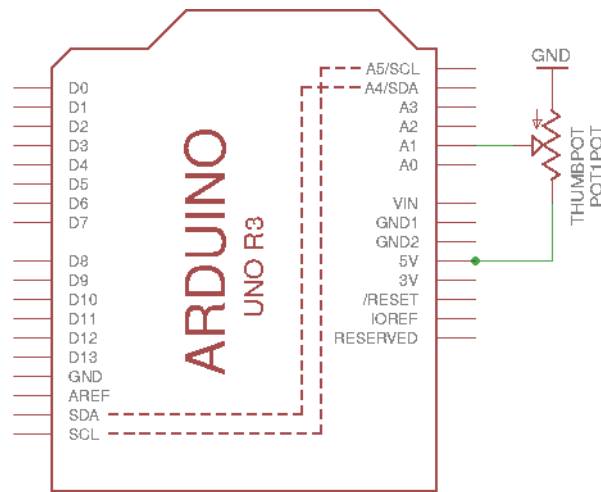

Figure 3.1: Circuit set-up for Activity 2
The circuit set-up is very simple for this activity. We need to identify the pins on the potentiometer first. The resistance between the middle pin and one of the outer pins is variable. The connection in Fig. 3.1 can be interpreted as two series connected resistors for which the sum of their electrical resistance is constant and equals 10 k Ohm, but each resistor has a variable resistance. This way,
- Assemble the circuit in Fig. 3.1.
2. Suppose we change the circuit from Fig. 3.1 by moving the connector from pin +5V to pin +3V on the Arduino. What is the range of values that are likely to be returned on the Serial monitor in this case? You may assume that integer values are assigned uniformly in the range 0 V to 5 V.
3. Add an LED and a 220 Ohm resistor to the circuit from Fig. 3.1 and connect the LED to one of the digital pins in the range 2 to 13 (pins 0 and 1 are used during the transmission of data over the serial link). Copy the *blink* function from the sample code provided on Moodle for lectures into the code from Listing 3.1. Adjust the code so that the duration the LED is on or off equals to the value read by the analog pin in milliseconds (the LED should be on for a time equal to the value read in milliseconds, and off for an equal amount of time). Your program should continue to send the value read by the analog pin to the serial monitor.
4. Add two LED's to the circuit from Fig. 3.1, and arrange them so that one LED is on the left, the other on the right. Program the Arduino so that when the voltage measured by the analog pin is in the range 0V to 2V, the left LEDs is on and the right onej is off. When the voltage is between 3V and 5V, the right LED is on and the left is off. When the voltage is between 2V and 3V, both LEDs should be on.